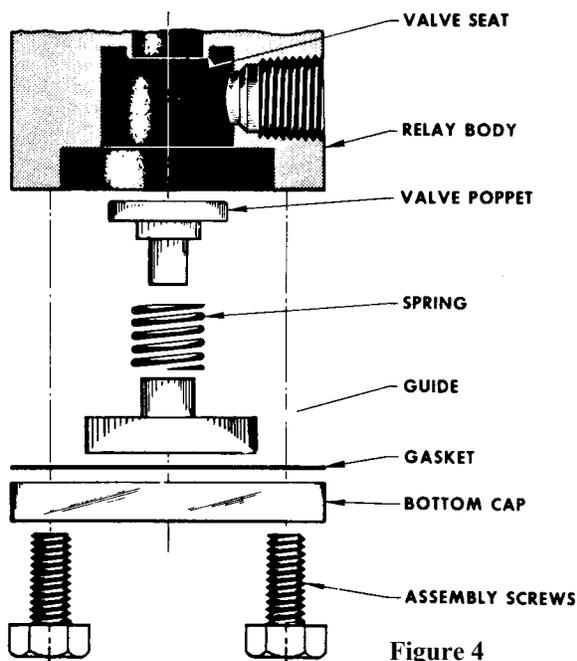

Figure 4
- If excessive leakage occurs at valve seat, remove bottom cover. Clean poppet and seat with soft, dry cloth (See Figure 4).